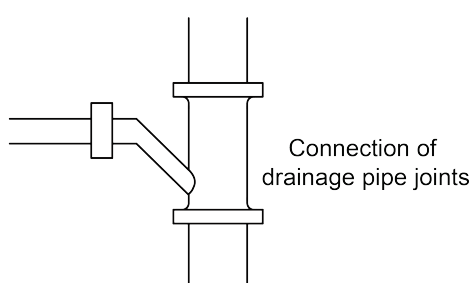

Fig.4.39
(8) Horizontal pipe can't be connected to the vertical pipe at the same horizontal height. Please see below figure for the connection method:
- No1: Three-way connection of drainage hose joint as shown in Fig.4.39;